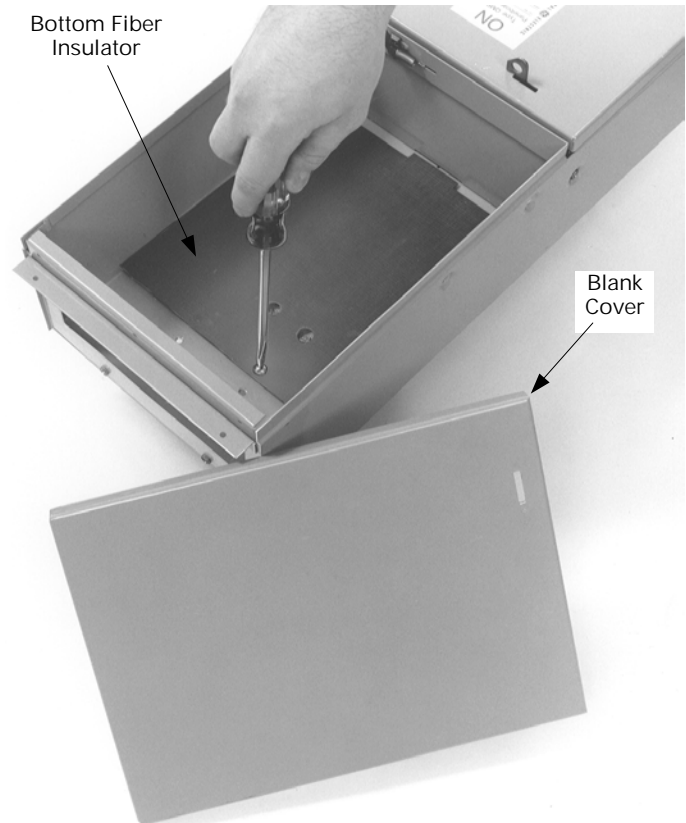

Figure 2. Removing the blank cover and bottom insulator.
2. **Prepare the enclosure.** Remove and discard the blank cover and the bottom insulator from the bottom of the device, as shown in Figure 2.